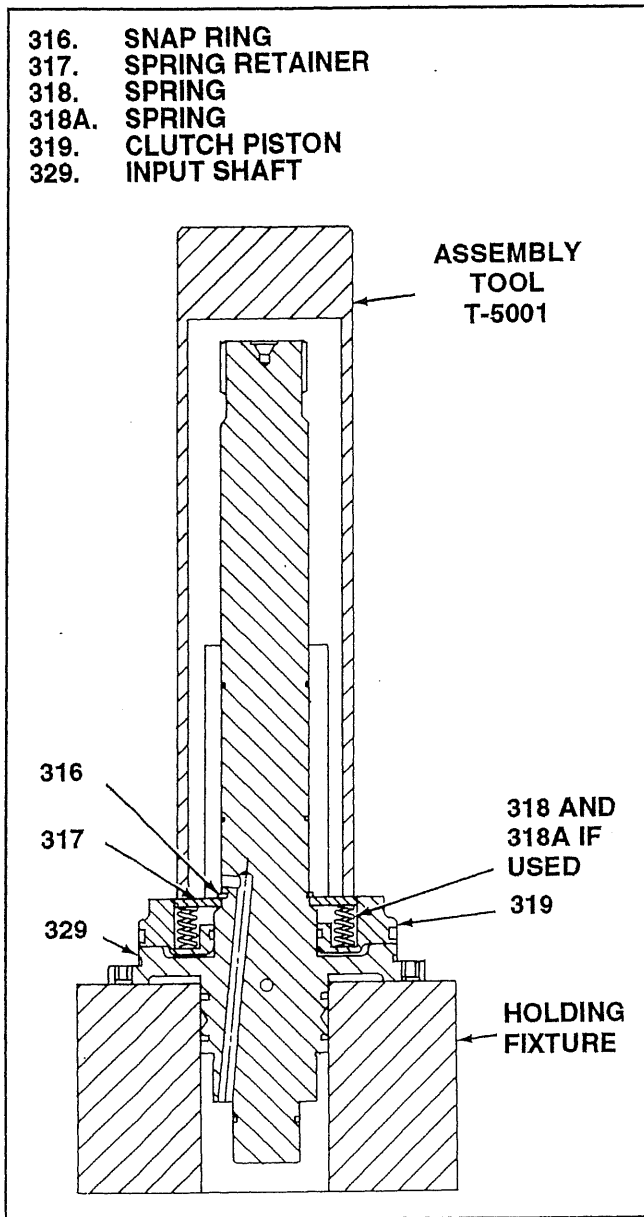

Figure 5-6. Installing Snap Ring
1. Install seal rings (328 and 327) and o-ring (326) in grooves on input shaft (329).
2. Install sealing ring assembly (323), consisting of o-ring (325) and sealing ring (324), in groove in ID of clutch piston assembly (319). Install sealing ring assembly (320), consisting of o-ring (322) and sealing ring (321) in groove on OD of clutch piston.
3. Install clutch piston assembly (319) on input shaft (329) with sixteen spring holes facing away from shaft flange. Seat piston against shaft flange.
4. Support input shaft with piston, o-rings and seal rings (319 through 329) in suitable holding fixture (see figure 5-6) in arbor press.
5. Install springs (318, and if used 318A) in holes in clutch piston assembly (319) as follows:
a. For transmissions 2001-000-011 thru -016, and 2001-000-R01 thru 2001-000-R06 install sixteen springs (318).
b. For transmissions 2001-000-001 thru -006, first install four springs (318) equally spaced. Then